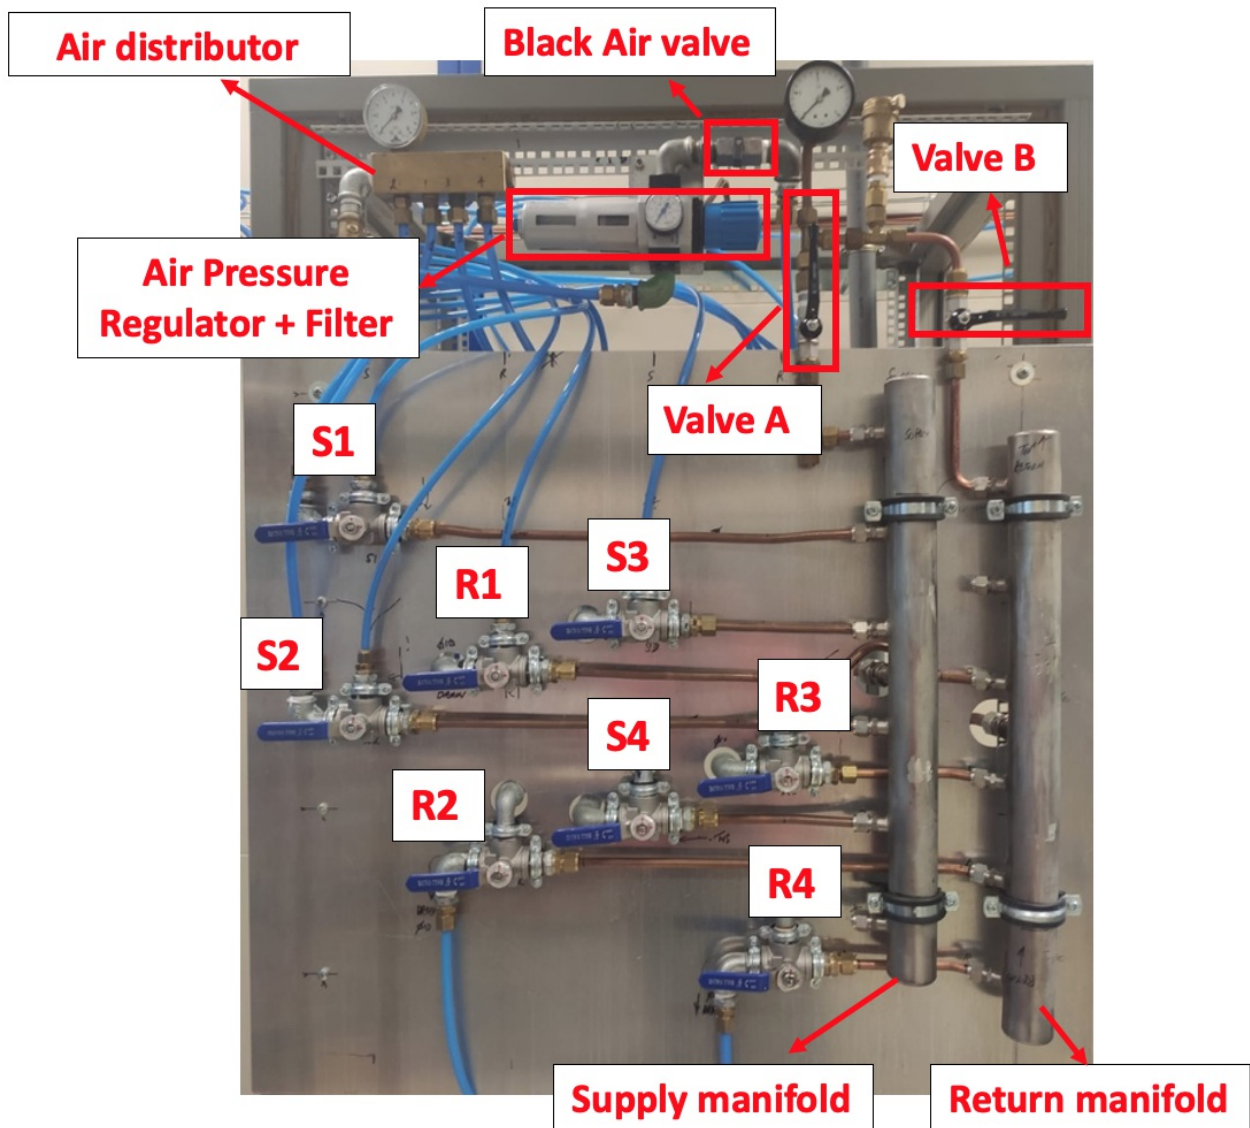

Figure 4
This unit is responsible for distributing the water in 4 supply channels to the chambers and collect the return water through 4 return channels to the chiller again, shown in Figure 4.
- We have 4 supply (S1, S2, S3, S4) and 4 return (R1, R2, R3, R4) lines as shown in Figure 4. As an example; pipe from line 1 supply (S1) is connected to the chamber and the return line (R1) is connected to return line 1. This is repeated for other 3 channels.
- You can find the channel name for supply and return lines on figure 4.